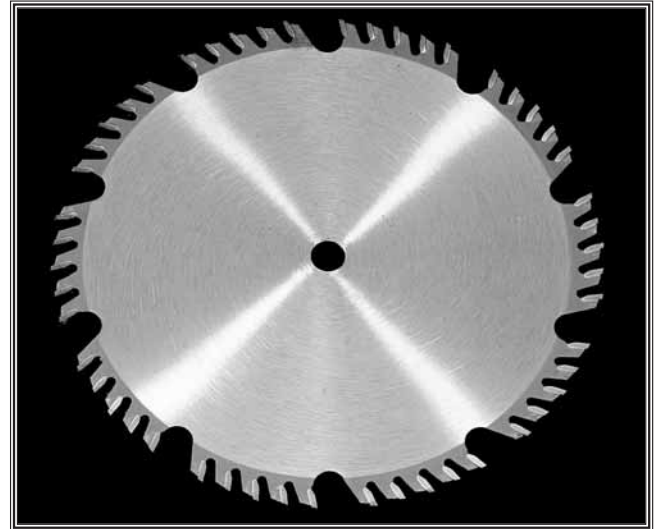

Figure 60. Combination blade.
- **Figure 60** shows an example of a combination blade. Combination blades are designed to perform both ripping and crosscutting duties. The blades carry enough teeth to perform the smooth cutting of a crosscutting blade and the large gullets of a rip blade to clear sawdust quickly. Drawbacks to this type of blade are that they do not perform either function as well as a dedicated rip or crosscut blade.